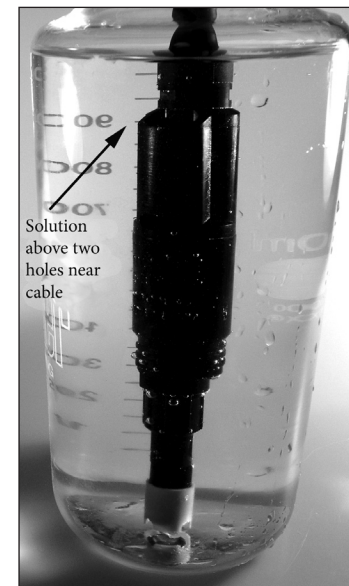

Figure 8, solution above two holes near cable.
1. Power the instrument on and place the sensor into a sample that has been titrated to determine the dissolved oxygen concentration. The sample should cover the two holes of the conductivity sensor that are located near the cable, see figure 8. During the calibration, continuously stir or move the probe through the sample at a rate of at least 6 inches (15.5 cm) per second if using a yellow membrane or at least 3 inches (7.7 cm) per second if using a blue membrane. A stir plate may be helpful for this calibration procedure.
1. Fill a clean container (i.e. plastic cup or glass beaker) with fresh, traceable conductivity calibration solution and place the sensor into the solution. The solution must cover the holes of the conductivity sensor that are closest to the cable (figure 8). Ensure the entire conductivity sensor is submerged in the solution or the instrument will read approximately half the expected value. Gently move the probe up and down to remove any air bubbles from the conductivity sensor.
1. Fill a clean container (i.e. plastic cup or glass beaker) with fresh, traceable salinity calibration solution and place the sensor into the solution. The solution must cover the holes of the conductivity sensor that are closest to the cable (figure 8). Ensure the entire conductivity sensor is submerged in the solution or the instrument will read approximately half the expected value. Gently move the probe up and down to remove any air bubbles from the conductivity sensor.
Before taking measurements, be sure the instrument has been calibrated to ensure the most accurate readings. Turn the instrument on and wait 5-15 minutes if using a polarographic sensor. Install the sensor guard to protect the sensor and membrane. Place the probe in the sample to be measured and give the probe a quick shake to release any air bubbles. Be sure the conductivity sensor is completely submerged in the sample. The two holes near the cable should be covered by the sample for accurate conductivity readings (figure 8).